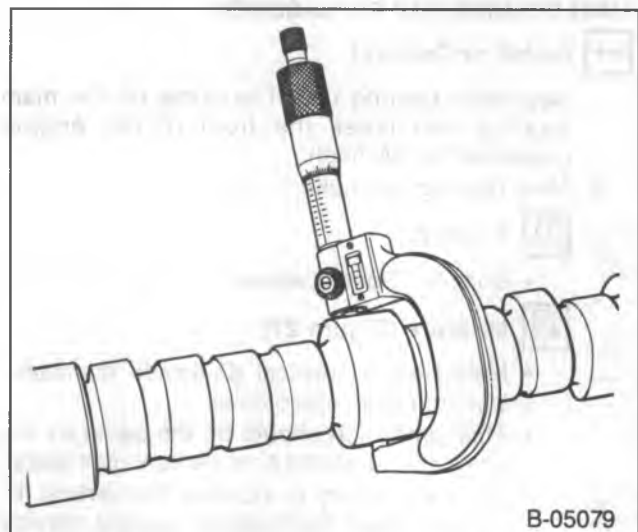

Figure 30—Checking the Camshaft Journals
- Camshaft journal out-of-round. Use a micrometer (figure 30). If the journals are more than 0.001-inch out-of-round, replace the camshaft.
- Camshaft journal diameter. Use a micrometer (figure 30). The proper diameter is listed in "Specifications."